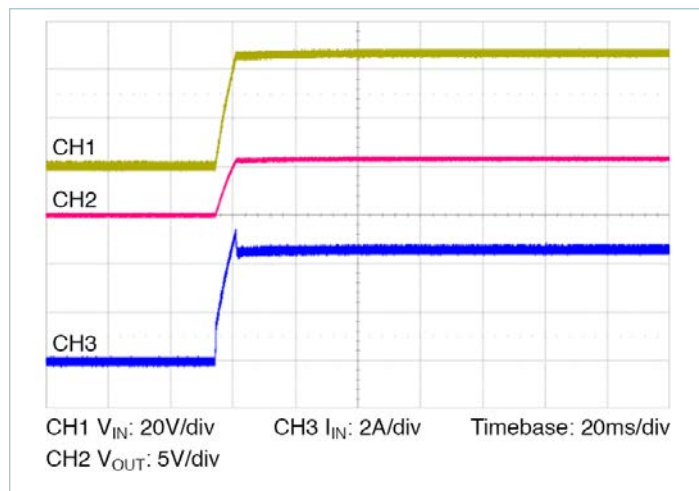

Figure 13 — Start up from application of V_{IN} ; V_C pre-applied $C_{OUT} = 4000\mu\text{F}$
- **Normal operation (VC applied prior to V_{IN}):** In this case the controller is active prior to ramping the input. When the input voltage is applied, the VTM module output voltage will track the input (See Figure 13). The inrush current is determined by the input voltage rate of rise and output capacitance. If the VC voltage is removed prior to the input reaching 26V, the VTM may shut down.